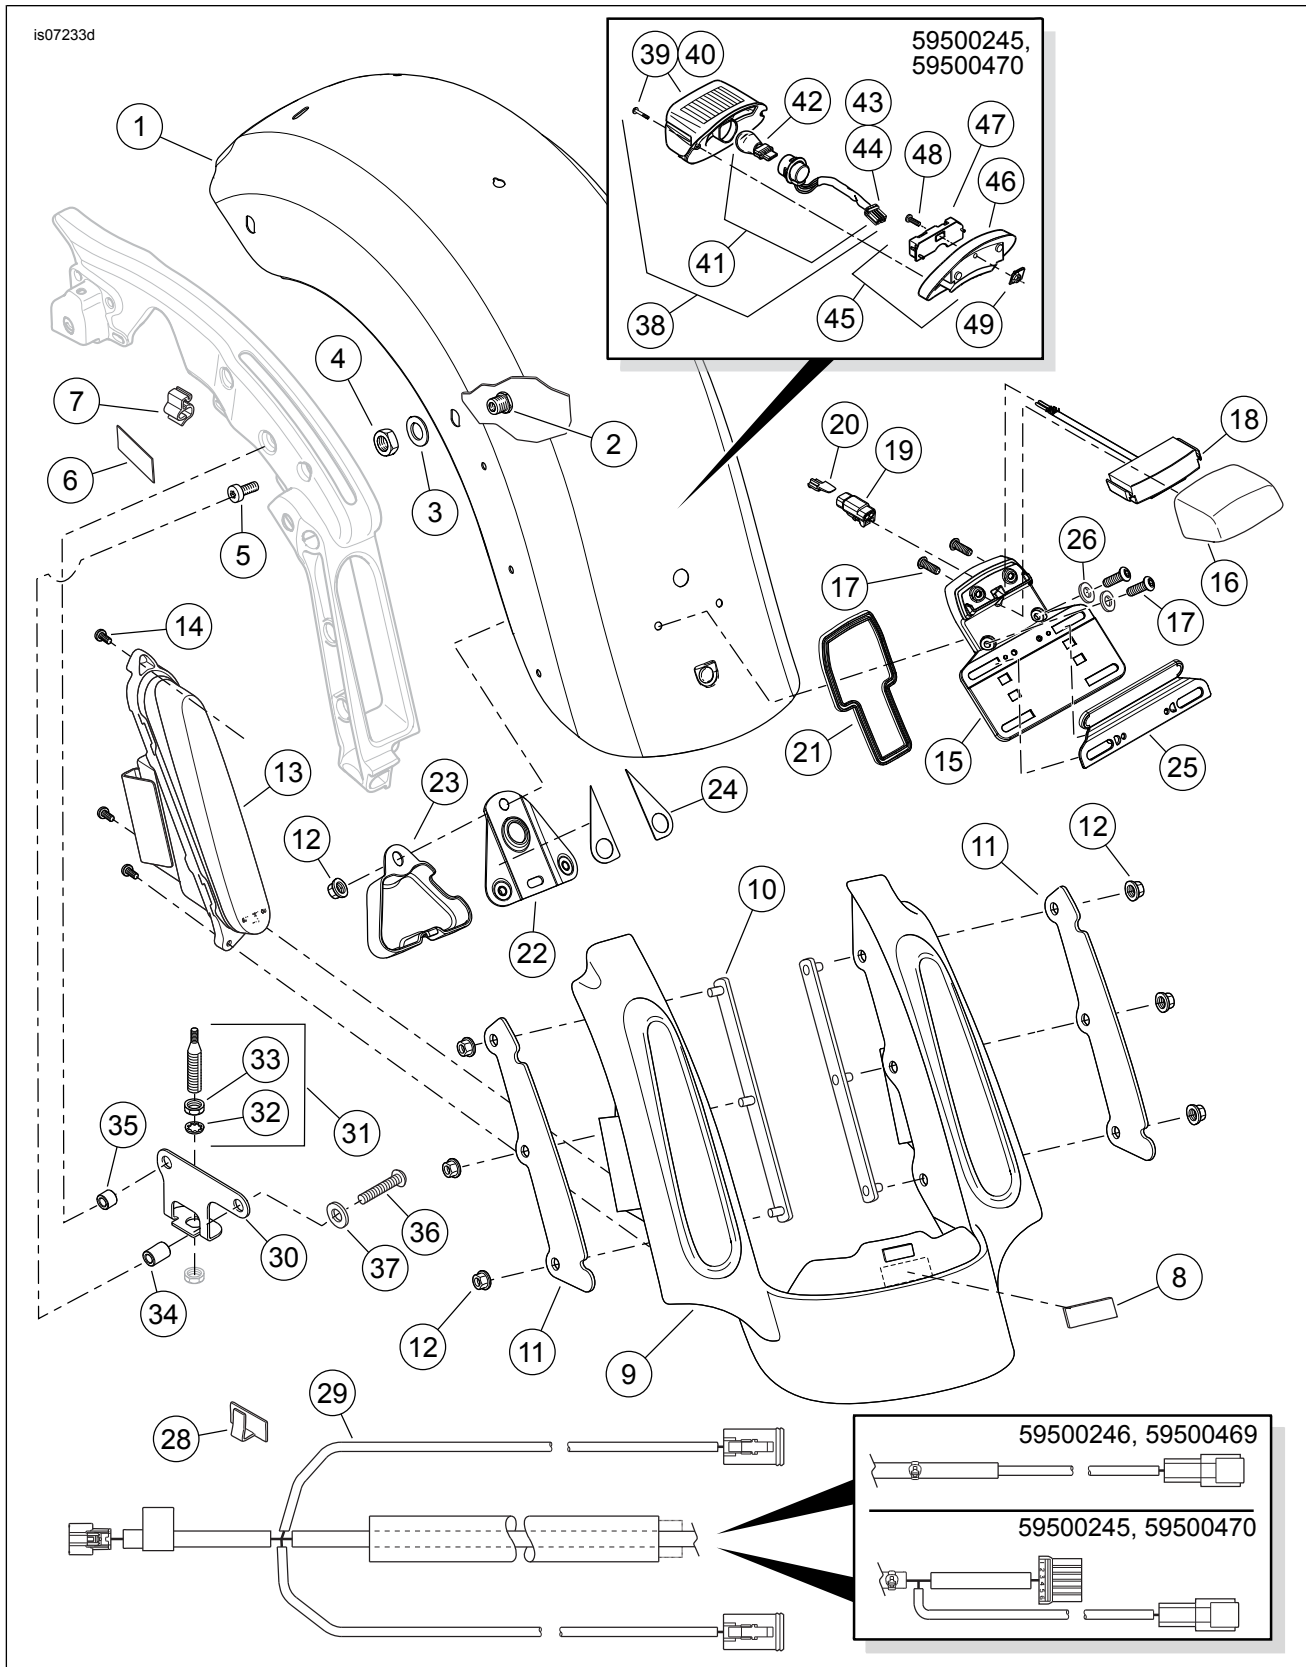

Figure 5. Service Parts, FL Touring CVO-Style Rear Fender Kits
1. See Figure 5. Disconnect the antenna cable from the antenna base assembly.
6. Position the **new** antenna bracket (30) near the fender supports as shown in Figure 5 and fasten the bracket to the fender supports:
- a. Assemble the thin washer (37) to the screw threads.
- b. Install screws (36) and washers (37) through antenna bracket from rear.
- c. Slide the spacers (34 and 35) onto the threads that are extending through the bracket. Note the spacer lengths. Reference Figure 5.
7. Install tooth lockwasher (32) from the kit onto the larger threads of the antenna base (31), under the hex nut (33). Insert the antenna base through the hole in the antenna mounting bracket.
8. Install the second hex nut (33) onto the threads of the antenna base. Place a wrench on the upper nut and tighten the lower nut to 8 N·m (6 ft-lbs).
11. Thread the antenna mast assembly securely onto the antenna base (31).
2. See Figure 5. Get four 5/16-18 x 25.4 mm (1 in) long fender mounting screws (5) from the kit. Loosely install a screw through the rear frame rail into the rearmost fender mounting boss on each side.
11. See Figure 5. Use a clip (7) from the kit to fasten a harness leg to the clip slot on the underside of each saddlebag support.